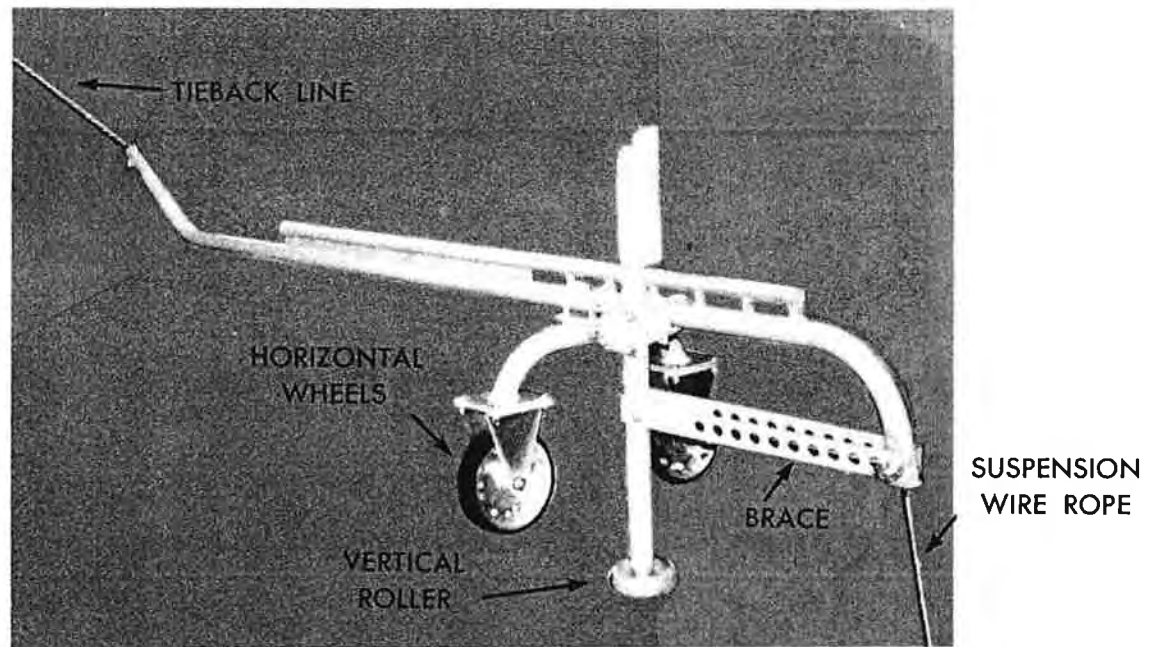

Figure 50
**Assembly Instruction (Fig. 50)**